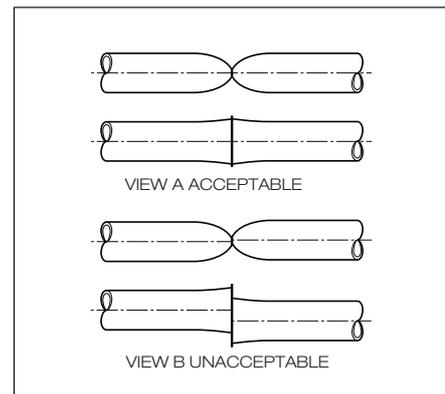

Figure 11
2. Compare your weld to those illustrated in Figure 11. Ideally, you should see no misalignment (VIEW A), but differences in the ACCEPTABLE outer diameters of the two sections of tubing may produce an apparent misalignment of the weld. This is acceptable. View B shows a misaligned weld that may be unacceptable. Repeated misalignment of welds (VIEW B) could indicate that service may be necessary.